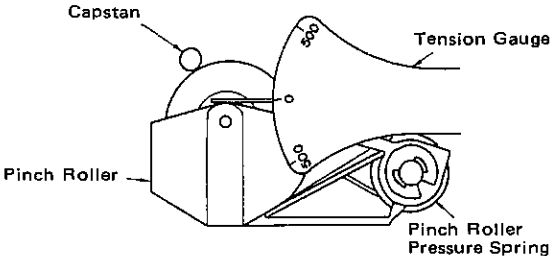

Figure 14-4
2. Push the pinch roller, at the point shown in Fig. 14-4, by using a tension gauge (500 gr.) so that it will come off the capstan. Then, slowly release the tension until the pinch roller hits the capstan again (i.e., the pinch roller is about to rotate again). Check, then, the tension gauge is reading 295 gr. to 365 gr.